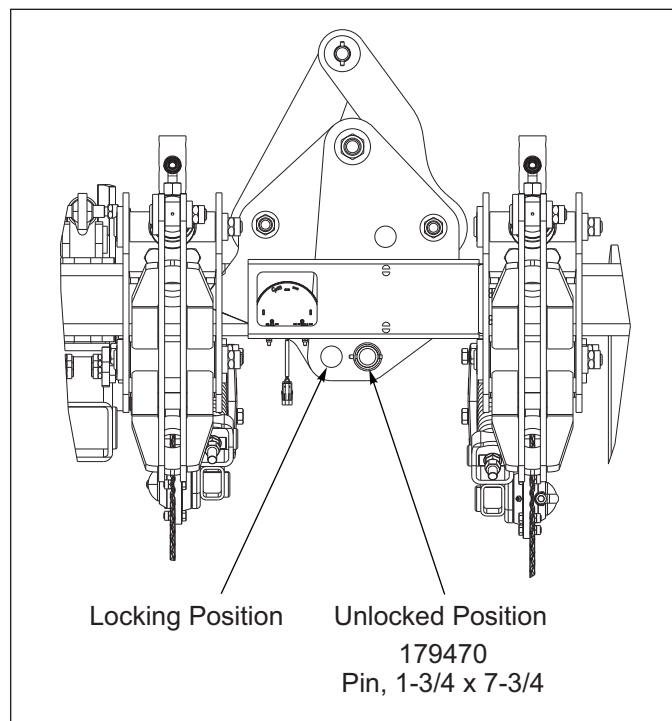

Figure 4-2: Folding Frame Wing Lock
Escaping hydraulic fluid can cause serious personal injury. Relieve system pressure before repairing, adjusting, or disconnecting. Wear proper hand and eye protection when searching for leaks. Use cardboard instead of hands. (See Figure 4-2.) Keep all components (cylinders, hoses, fittings etc.) in good repair.
6. To lock the Wing Assembly down, remove the pin from the unlocked position and into the locking position. *See Figure 4-2.*
The wing fold hydraulic system MUST be operated in float once the wings are unfolded OR the wings MUST be locked down. Failure to do so may result in wing fold cylinder damage. See Figure 4-2.